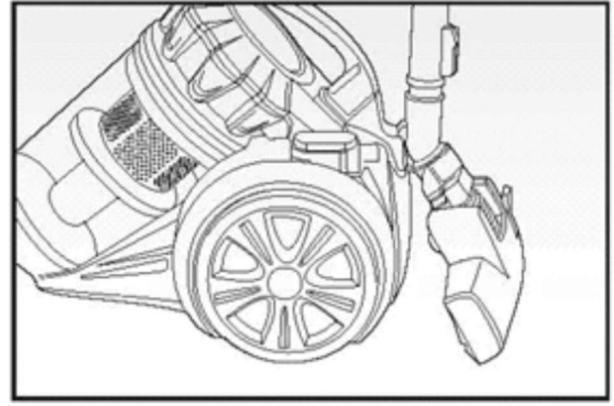

Fig. 5
Put away the appliance, placing the floor brush (O) on the special hook in the back (Fig. 5).